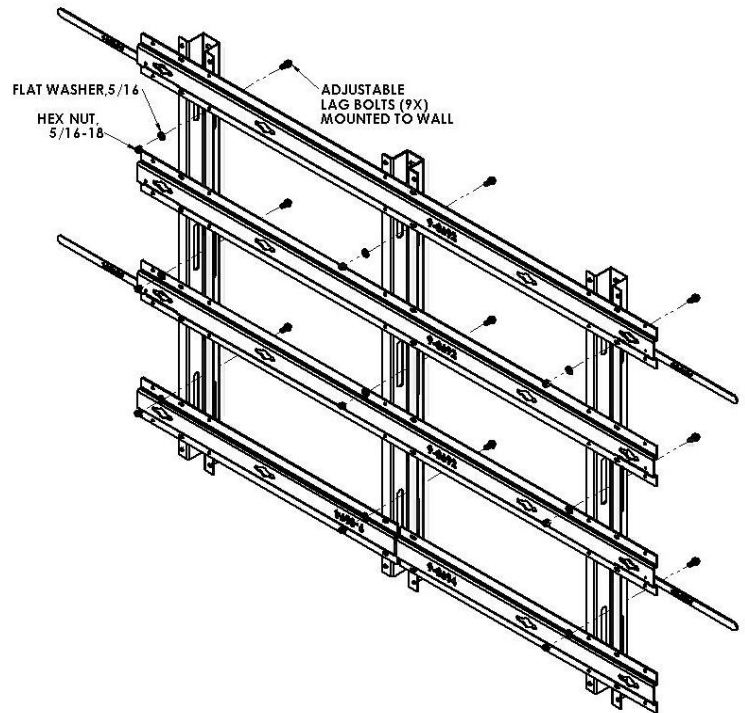

Figure 4
Step 4: Re-place the frame on the wall then secure using the provided hex nut and flat washer. Hand tighten hex nut only (Figure 4).